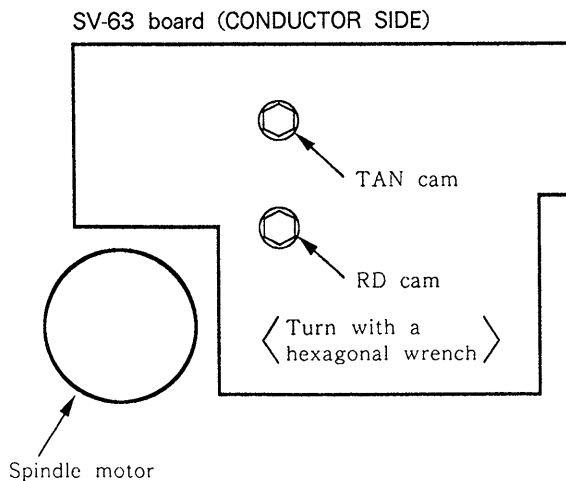

Fig. 2-10.
- 1) Turn the TAN cam on the bottom (See Fig. 2-10.) with a hexagonal wrench.